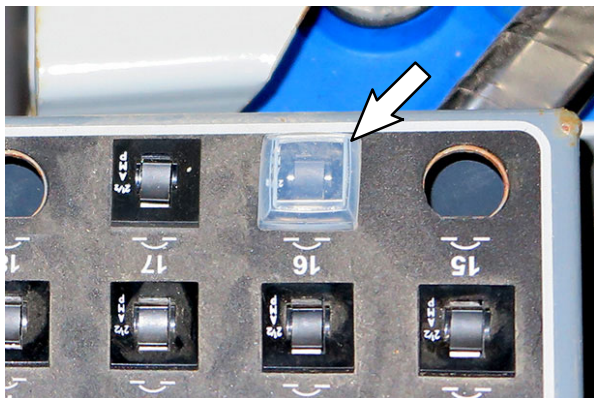
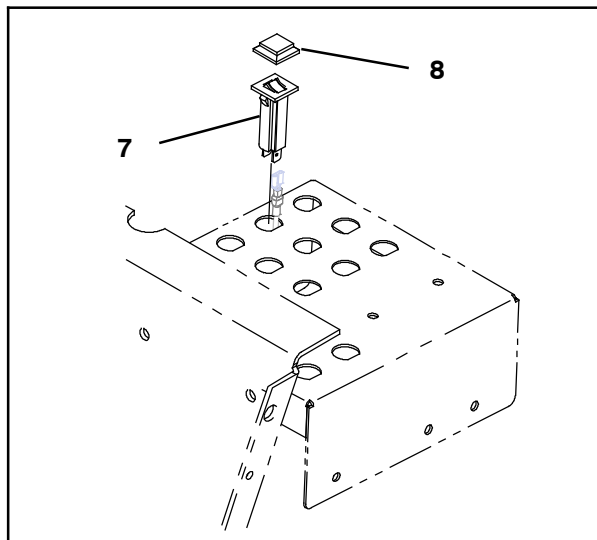

FIG. 13
FIG. 14
26. Battery Machines Only: Insert the 2.5- Amp circuit breaker (7) into circuit breaker 16 location in the circuit breaker panel and install the circuit breaker boot (8) onto the 2.5- Amp circuit breaker. (Fig. 13/ Fig. 14)